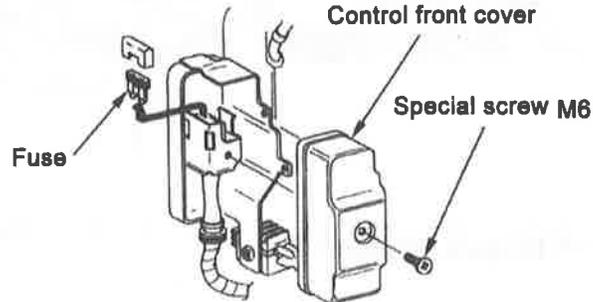

Fig. 27
1. Screw off M6 special bolt from the cover of switch box and remove the cover.(Fig.27)